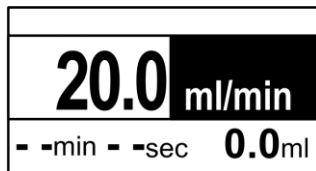

Fig. 29: Flow unit
4. Press control knob, Fig. 29 appears
- if a timeout is not specified (see Fig. 29),